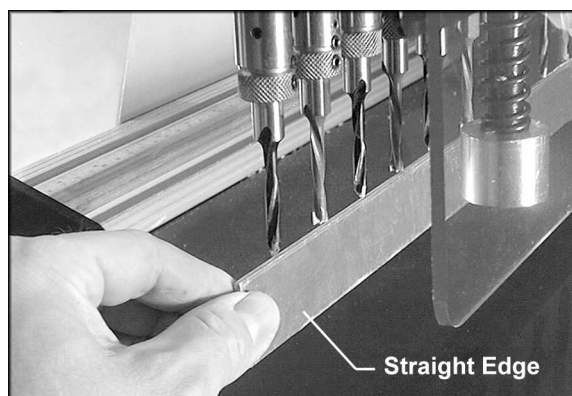

Figure 10
7. After all boring bits are installed, check to make sure they are aligned, that is, that they all protrude an equal distance from the chuck. (This assumes, of course, that all boring bits are of equal length.) This can be done with a straight edge contacting the tips of the boring bits, as shown in Figure 10. You may need to remove the index pins for this.